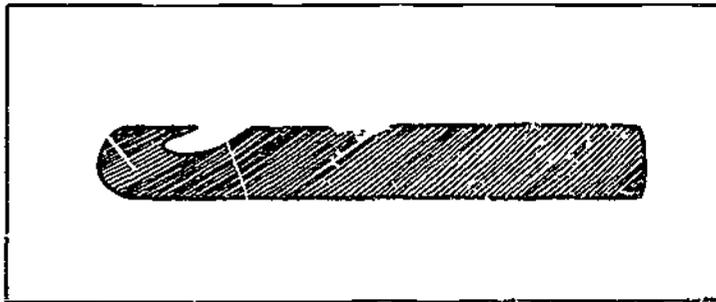

Figure 4-21
4. Make a little tool from a piece of corner bead to fish out the tape that is blocking the passage at the end of the channel. Cut the corner bead 1.5 cm wide and 8 to 10 cm long. Round off the corners at one end and cut out a V-section on one side to make a hook (Figure 4-21). Pull the cutter chain as far as possible towards the side on which the chain connects the collar so that it is not blocking the channel. Slide the hook through the channel into the passage and pull out the paper blocking the passage. It may take a few tries to get it.